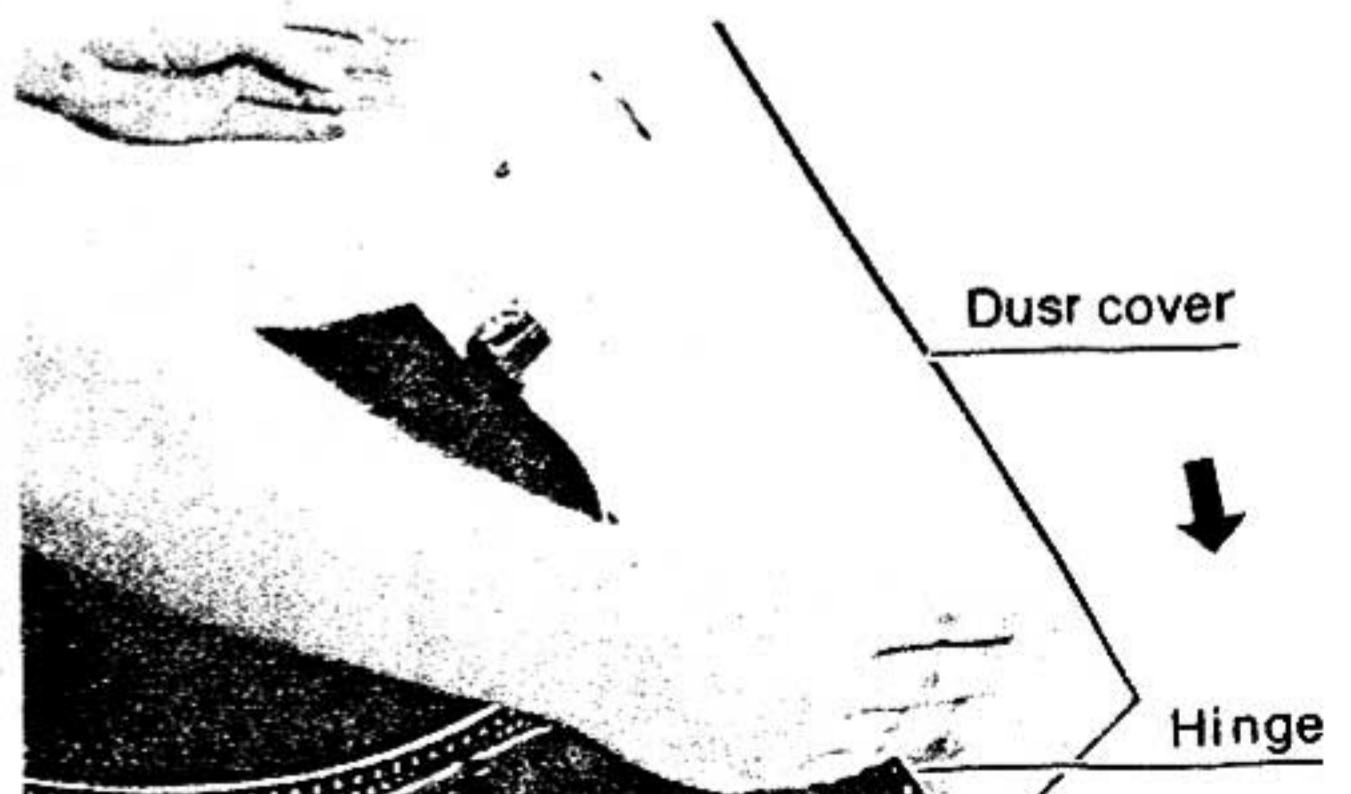

Fig. 7
3. Installation of the dust cover (Fig. 7)